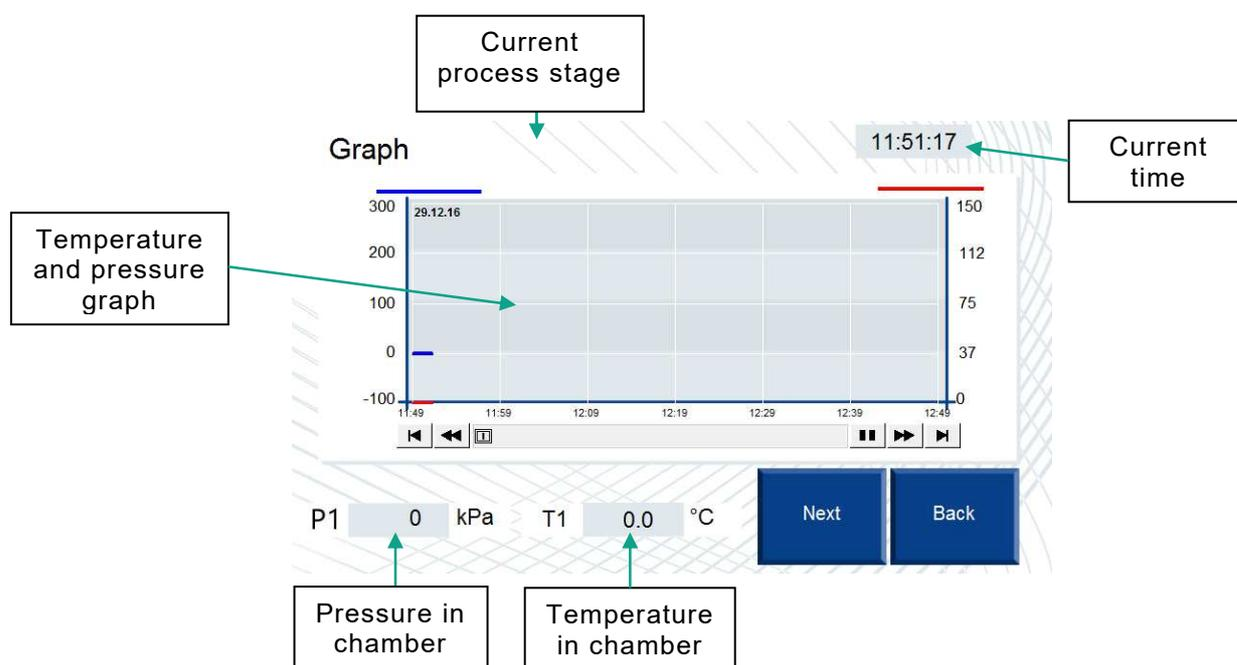

Fig. 12
**Graph** – pressing this button navigates to the process graphs screen (Fig. 12).
**Back** – the button to return to the “Graph screen” (fig. 12).